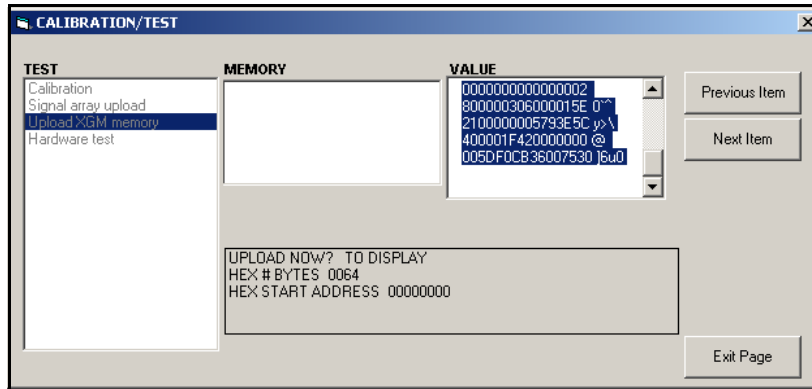

Figure 14: XGF868i Memory Data Displayed on PanaView
- If you double-click on *To Display*, the right pane of the window appears similar to Figure 14 below, and the data is available for immediate evaluation. Click [Exit Page] to close the window and return to the *Calibration/Test* menu.